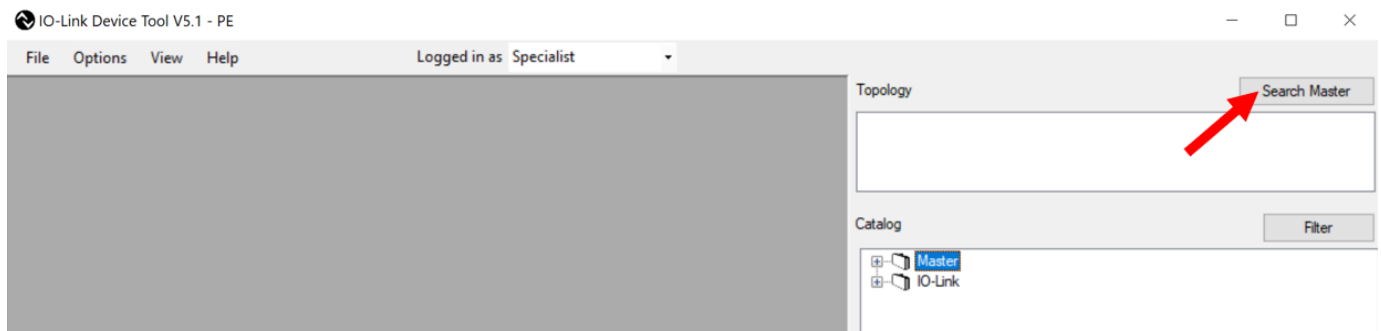

Figure 3. Search Master
- a. Click on 'Search Master' in the main 'IO-Link Device Tool VS5.1 – xE' window, see Figure 3. The 'Master Discovery' window pops-up. The IO-Link Masters in use are listed in the window.